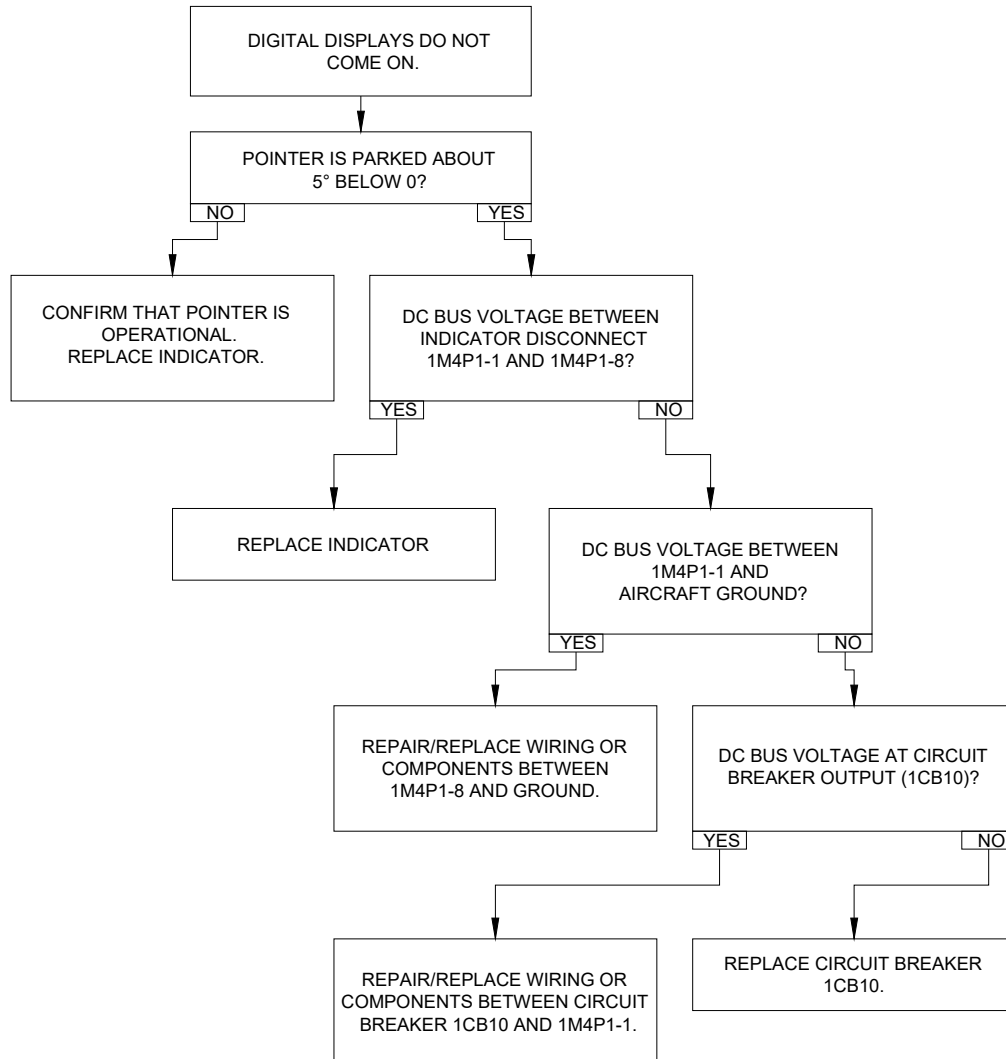

Figure 95-10: MGT Indications System - Trouble No. 1
- If the digital displays do not come on, refer to Trouble No. 1 (Figure 95-10).